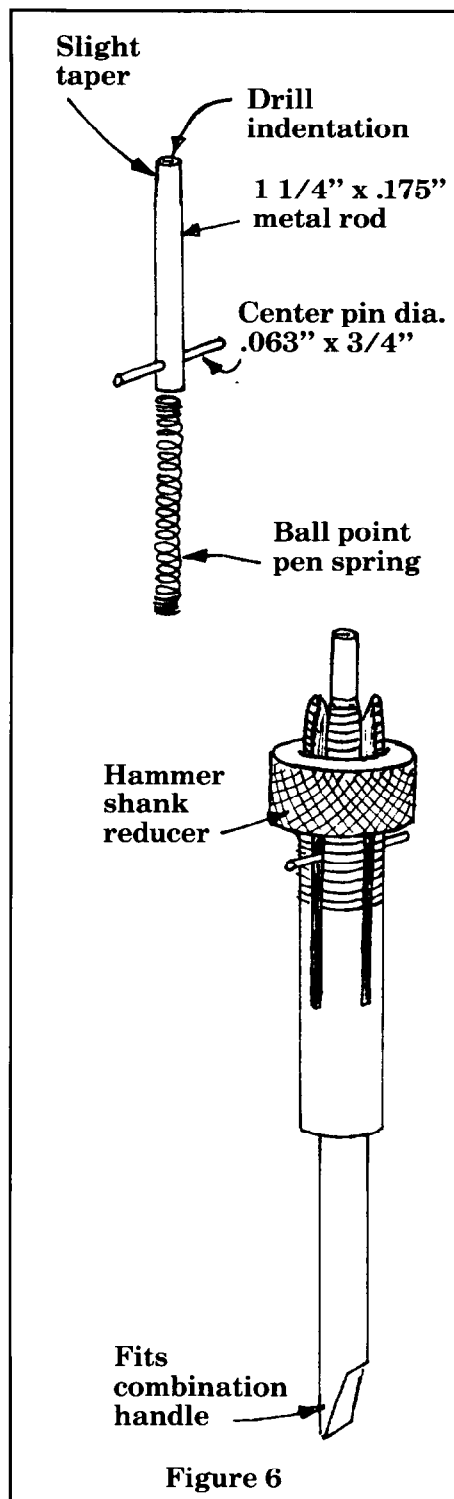

Figure 6
*I made this tool about six or seven years ago. The 1 1/4-inch by 0.175 rod is a nail with the head and point cut off. An indentation is drilled to position the tool and hitchpin. I put a slight taper on the end. The centerpin should slide freely in the shank reducer slots (see Figure 6...ed.)*